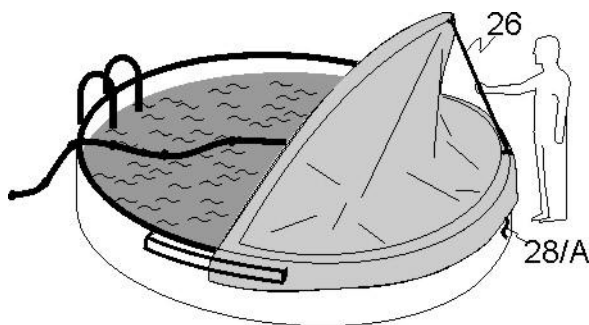

Abb. 7.2
- Put the aluminium tube (26) between two arches (fig. 7.2)